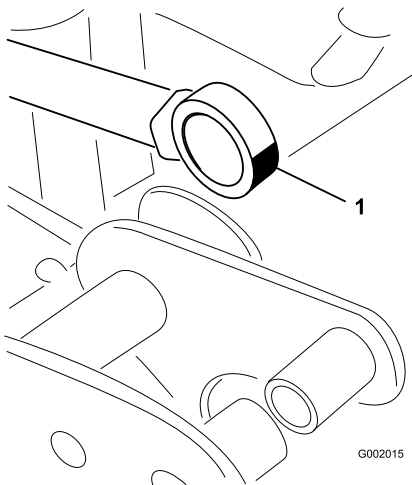

Figure 43
5. Manipulate the actuator rod bearing end and apply grease into the bearing (Figure 43). Wipe off excess grease.